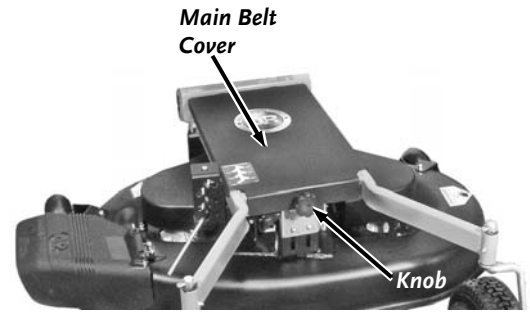
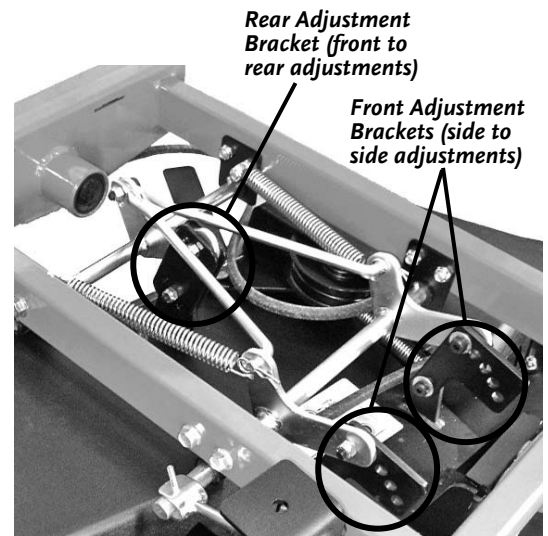

Figure 18
Figure 19
2. Unscrew the Knob and remove the Main Belt Cover (**Figure 18**) and locate the Adjustment Brackets (**Figure 19**).